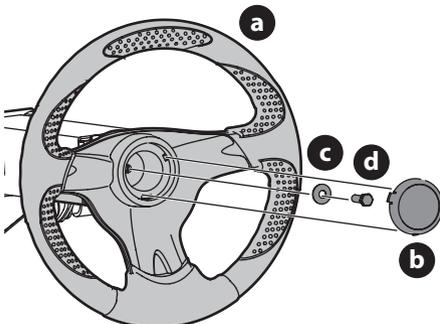

Figure 12
1. Remove the hardware for attaching the steering wheel (a) from beneath the steering wheel cover (b). Carefully remove the cover by inserting a small, bladed screwdriver into one of the three snap locations and slowly prying up on the steering wheel cover (b) to remove the hardware (Figure 12).
2. With the wheels of the machine pointing straight forward, place the steering wheel (a) over the steering shaft (Figure 12).
3. Place the Belleville washer (c) with the cupped side facing inward over the steering wheel and secure with the hex lock screw (d) (Figure 12).
4. Place the steering wheel cover (b) over the center of the steering wheel (a), align the three snaps with the tabs in the steering wheel, and push downward until it “clicks” into place (Figure 12).